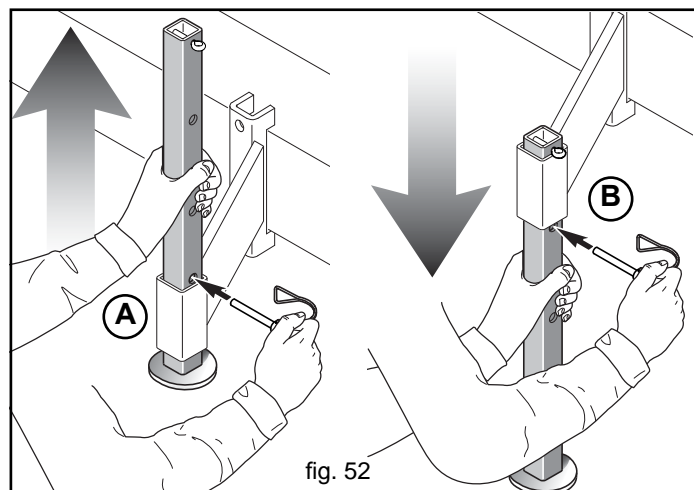

fig. 52
- Lift the equipment off the ground and remove the support legs (A, Fig. 52).
- Put the support legs in the parking position (B, Fig. 52).